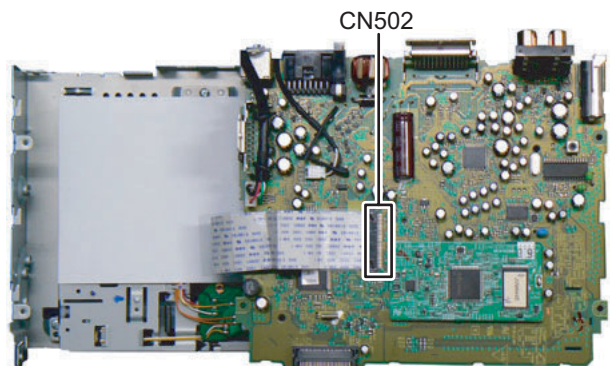

Fig.6
(3) Disconnect B-B connector **CN502** of the Electric unit connected the CD mechanism and Electric unit. (See Fig.6)